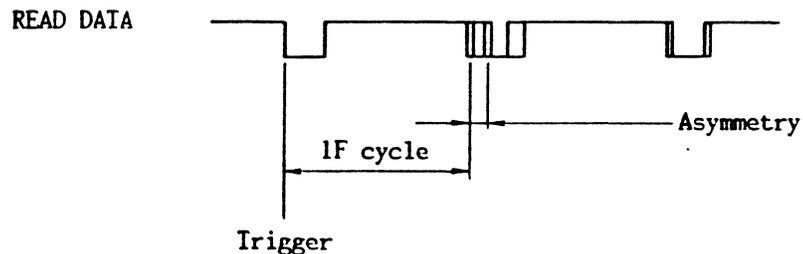

Fig. 413 Asymmetry Measurement
- (2) Start the spindle motor and load the work disk.
- (3) Shift the head to the innermost track.
- (4) Record one track with a constant 1F (WRITE DATA frequency for 1.6MB: 125kHz, for 1MB: 67.5kHz).
- (5) Measure the asymmetry in accordance with Fig.413.